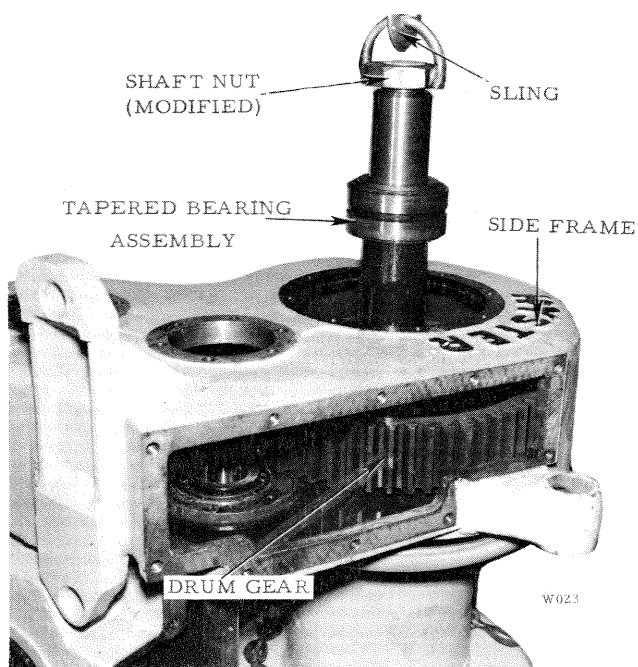

Figure 23
Turn a modified shaft nut onto the drum shaft and attach hoist to it. Pull the shaft straight up and out. Fig. 23.
16. Work the drum gear, fig. 23, out of the side frame far enough to attach a hoist to it. Attach a hoist to the gear, remove the slack from the slinging, and pull the gear out.